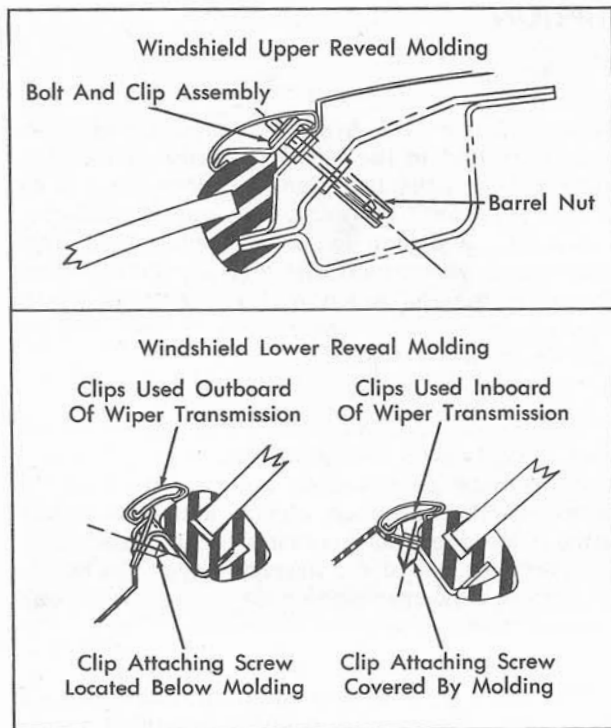

Fig. 17-1 Windshield Reveal Moldings and Attaching Clips
1. On inside of body, remove upper garnish molding; then working through access holes, remove barrel nuts, Fig. 17-1, securing reveal molding.
NOTE: Two types of slide-on clips secure the lower reveal moldings. The attaching screw for the two outer clips is exposed and is located below the molding, while the attaching screw for the remaining clips is covered by the molding, Fig. 17-1.
6. Loosen the fender upper attaching bolts; then carefully position fender so that the clip located outboard of the wiper transmission, Fig. 17-1 can be removed; then remove clip attaching screw.